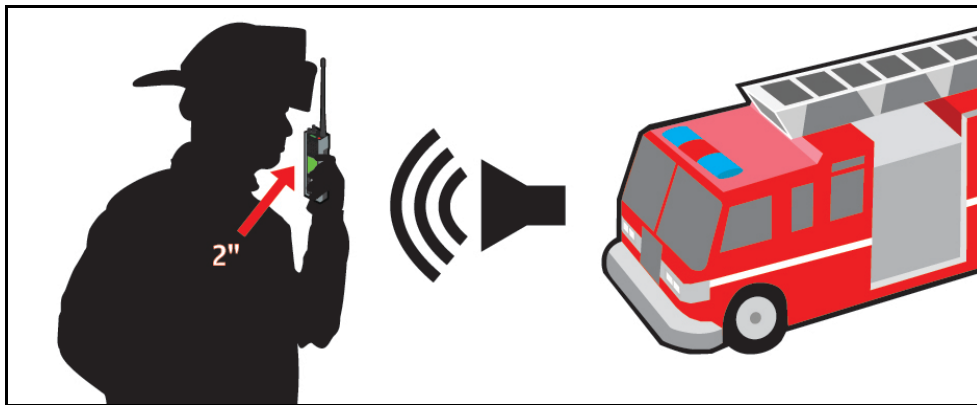

Figure 4-5: Using the Noise Cancellation Feature
- Talk within two (2) inches of primary microphone (see Figure 4-5).
- If possible, face the noise source when talking into the radio (see Figure 4-5).